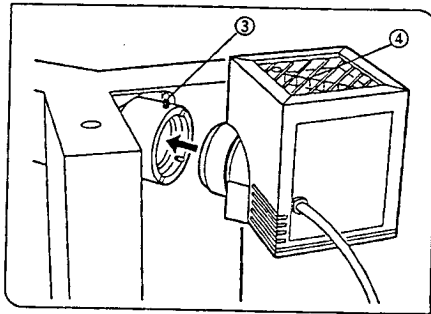

Fig. 12
1. Using the Allen screwdriver, fully loosen the lamp housing clamping screw ③ on the reflected light port on the microscope. (Fig. 12)
2. Insert the lamp housing collector unit into the lamp port until it touches the lamp housing mounting collar on the back of the base (upper part), then tighten the clamping screw ③. (Fig. 12)